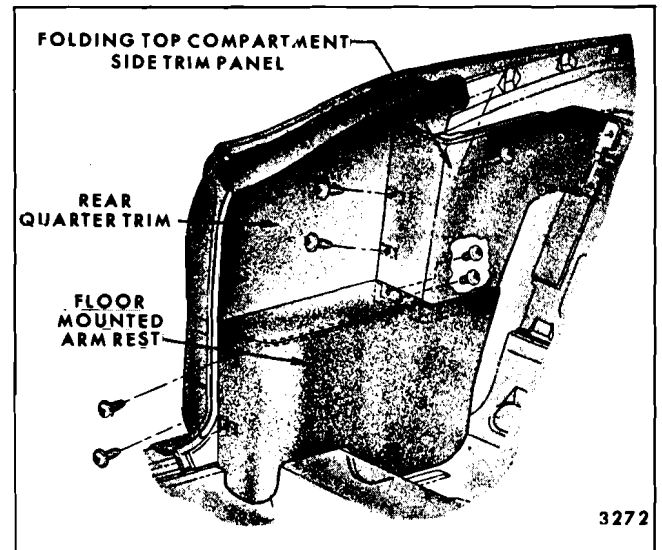

Fig. 14-22—Rear Quarter Trim - "67" Styles - "A" Body Shown, "B-C" Body Similar
NOTE: On all convertible styles except Cadillac, the floor mounted arm rest is subassembled to the folding top compartment side trim panel and must be removed as an assembly (Fig. 14-22).
- c. On convertible styles, remove exposed screws securing folding top compartment side trim panel (Fig. 14-22).